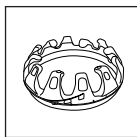
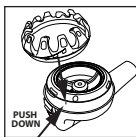

Fig. 1
Fig. 2
1. Place the base of the power handle on the flat top surface of the rotary clipper attachment (Fig. 1).
2. Align the slot on the bottom of the power handle with the notch on the top of the rotary clipper attachment (Fig. 2).
1. Push in the rotary clipper attachment release button on the back of the rotary clipper attachment while holding the power handle (Fig. 1).
2. Firmly pull the power handle away from the rotary clipper attachment while continuing to push in the rotary clipper attachment release button (Fig. 2).
1. While holding the rotary clipper attachment with the blades facing upwards, line up the grooves on the clear comb guide (Fig. 1) with the recesses on the rotary clipper attachment (located underneath the comb guide locking button) (Fig. 2).